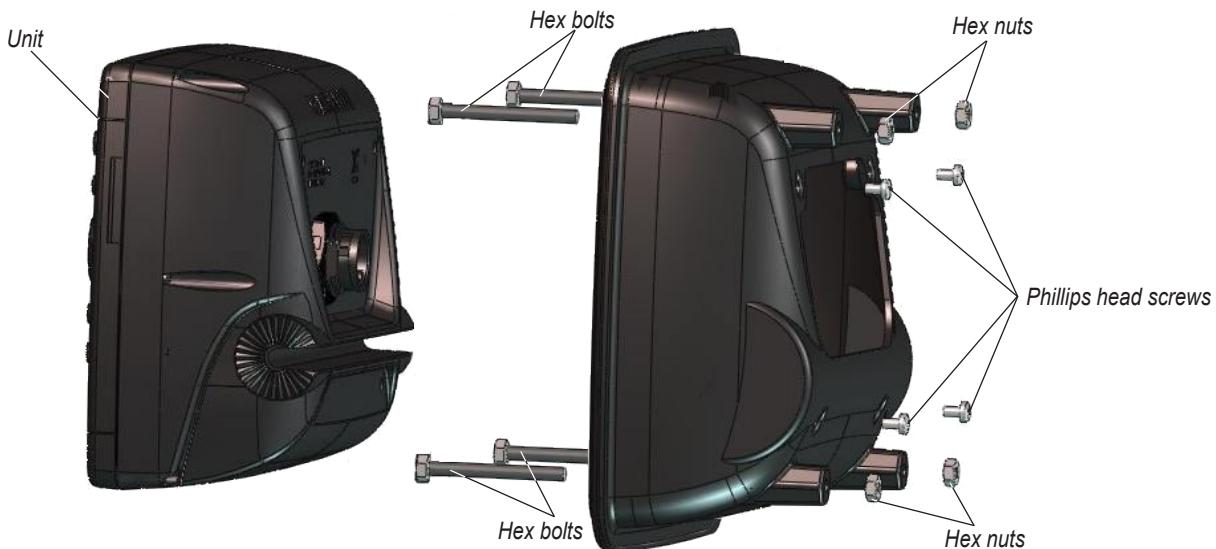

Figure 1
2. Assemble the flush mount hardware (see Figure 1):
- Insert the (4) hex bolts into the unit housing so they stick out of the back.
- Use the (4) hex nuts to secure the hex bolts to the unit housing. Using the 9/32" (7 mm) wrench, tighten the nuts without overtightening.
- Using the (4) Phillips head screws, attach the unit housing to the unit.